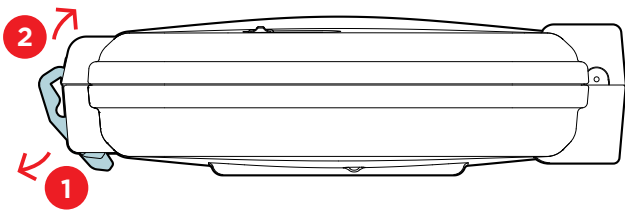

Figure 7: Place the latch
4. **Lift from the bottom of the latch and place the top of the latch onto the latch rail** (Figure 7).